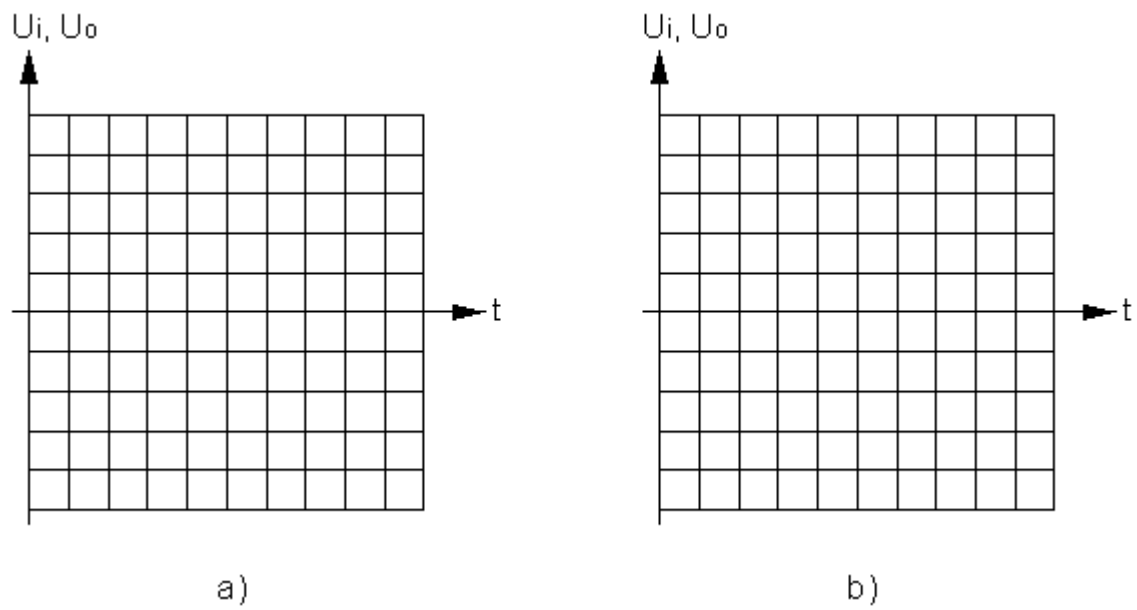

Fig. 6.8
8. Draw in Fig. 6.8-a the signals displayed on the oscilloscope;
25. Draw in Fig. 6.8-b the signals displayed on the oscilloscope;